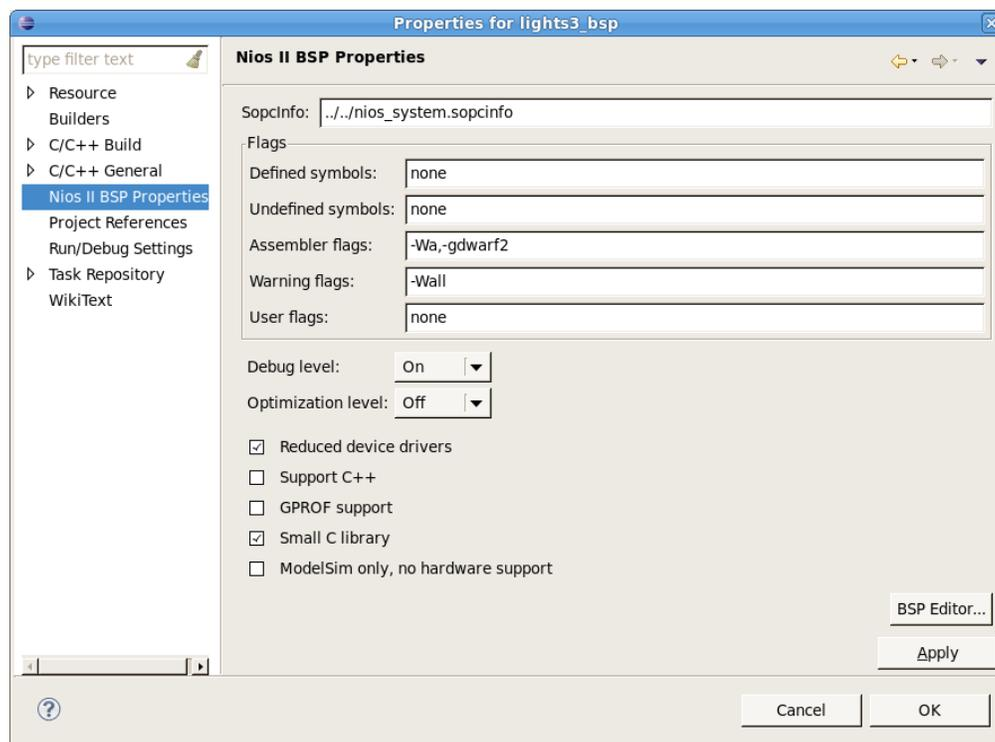

Figure 9. NIOS II IDE New Project Wizard
4. Change the following settings, which affect the size of the compiled executable (see Figure 9).